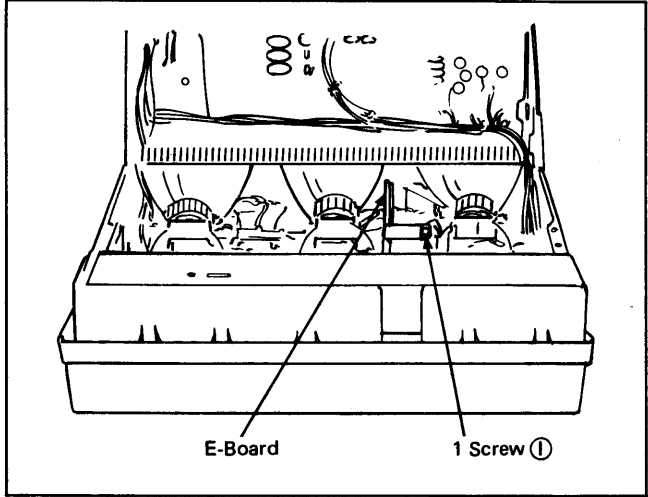

Fig. 8
- Remove 1 screw (I), and remove the "E"-Board fixing metal as shown in Fig. 8.